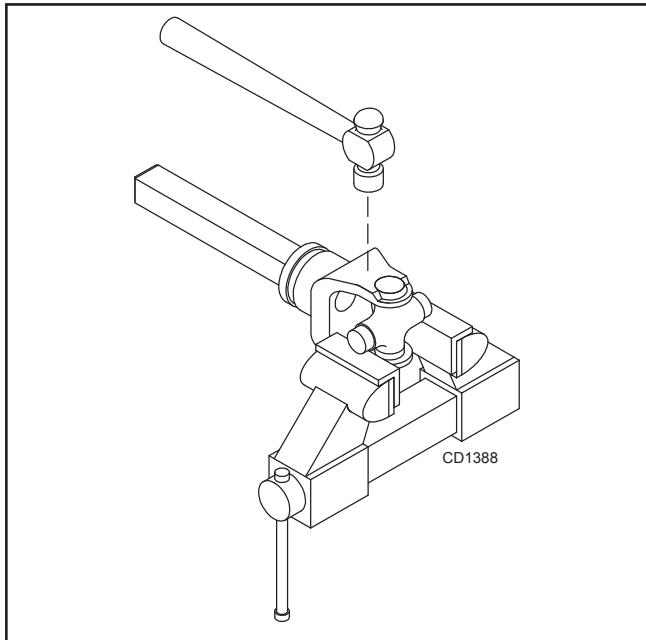

Figure 20.
- Place universal cross in vise as shown in Figure 20 and tap on yoke to remove cup. Repeat Step 3 for final removal. Drive remaining cup out with a drift and hammer.
- Seat cups by placing a drift or socket (slightly smaller than the cup) on cup and rap with a hammer. See Figure 20. Install snap ring and repeat on opposite cup.